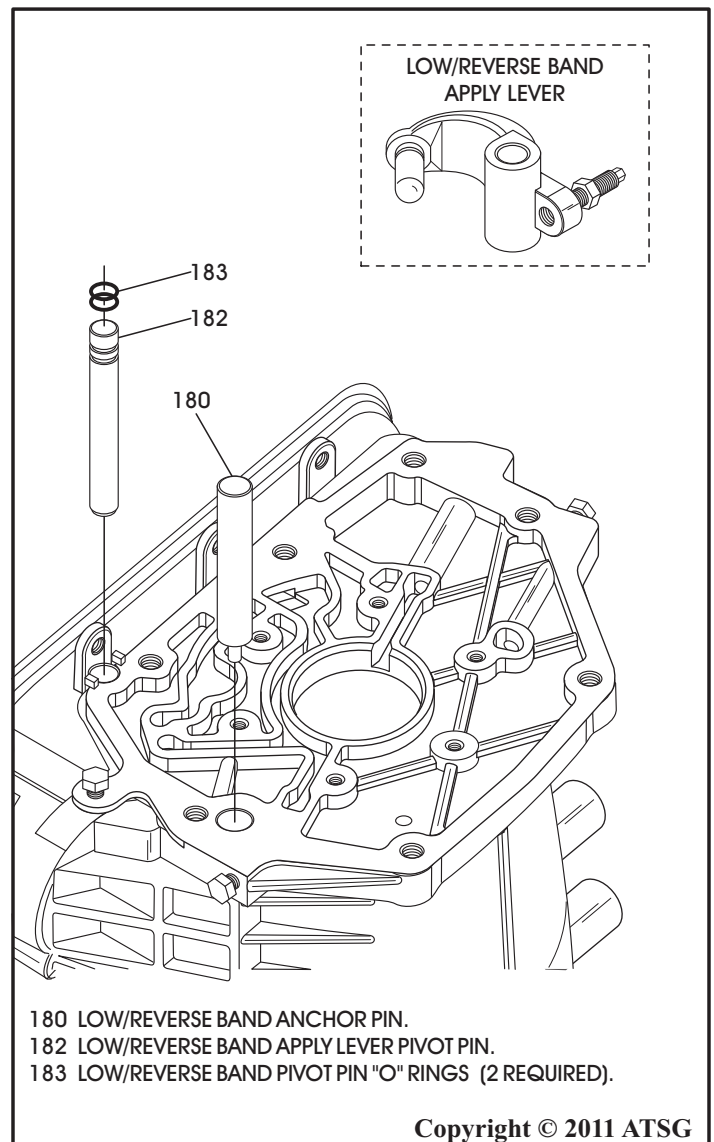

Figure 85
52. Remove the low/reverse band anchor pin from case, as shown in Figure 85.
53. Remove low/reverse band apply lever pivot pin and the apply lever (See Figure 85).